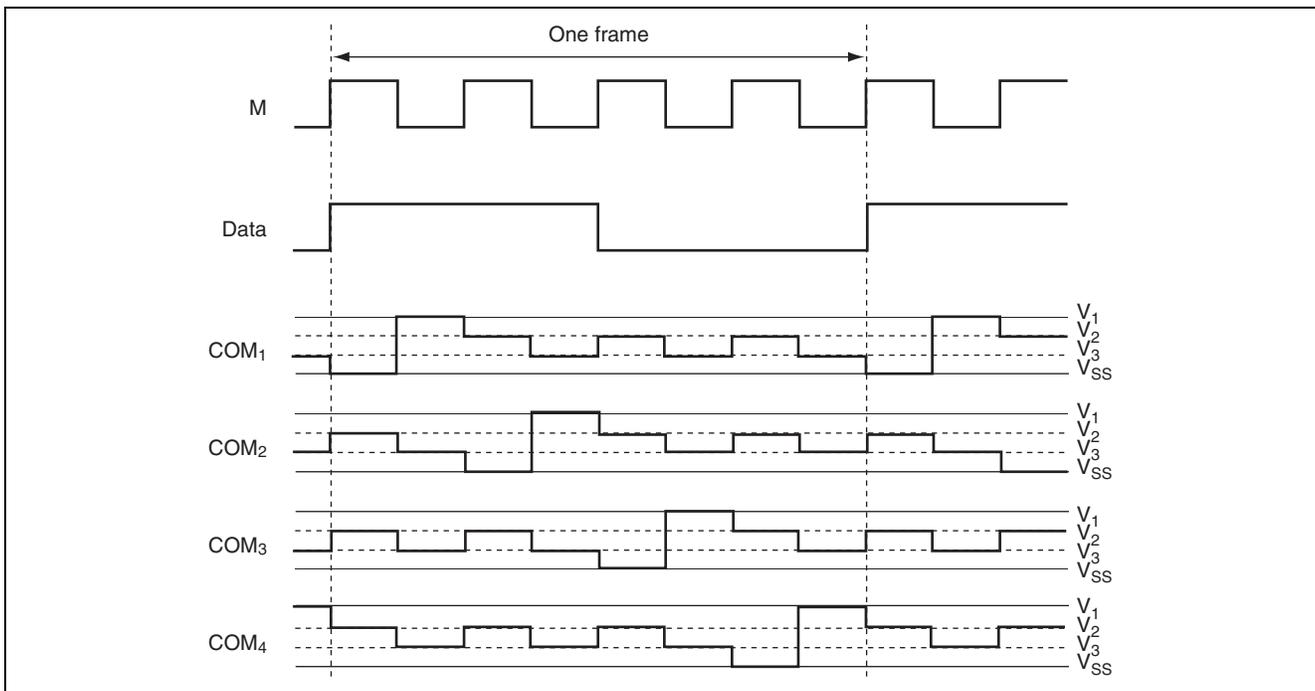

Figure 3.3 Principle of Operation
3. Figure 3.3 shows this sample task's principle of operation.